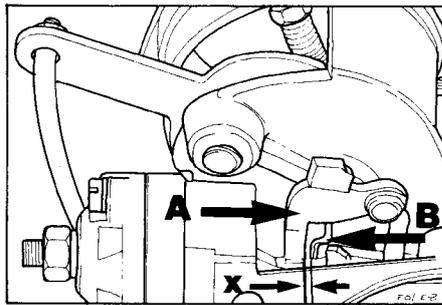

Fig. 6 Modulator spring adjustment
- c) Check clearance 'X' between modulator spring (B) and choke lever (A) using a drill of suitable diameter (Fig. 6).